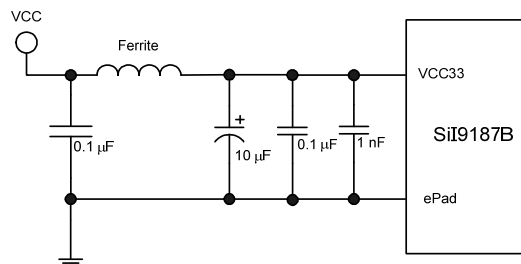

Figure 9. Test Point VCC for VCC33 Noise Tolerance Spec
1. The supply voltage noise is measured at test point VCC. See Figure 9. The ferrite bead provides filtering of power supply noise. The figure is representative and applies to other VCC33 pins as well.